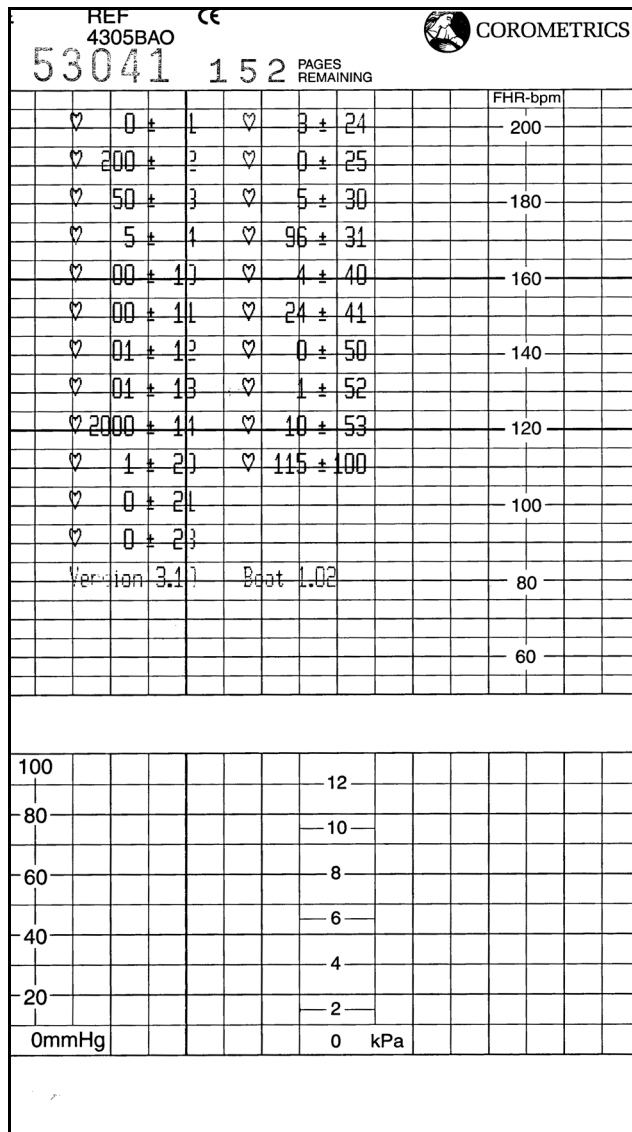

Figure 4-13. Configuration Summary Printout
2. Press the **Record** button . Figure 4-13 shows a sample printout.